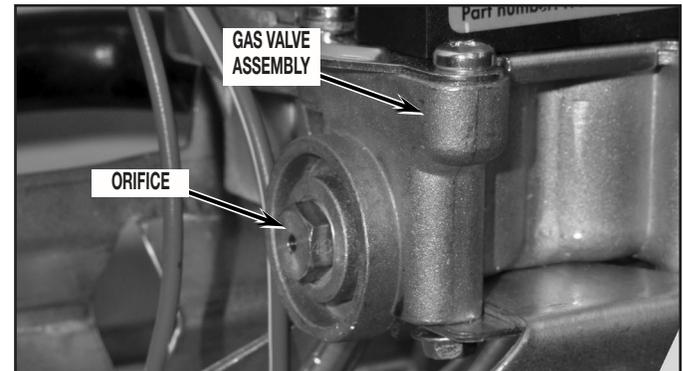

FIGURE 21
25. Remove the burner orifice from the gas valve assembly and replace it with the proper orifice furnished in this kit. Orifice number is stamped on one edge of the hex head of orifice. Securely tighten. See *Figure 21*.